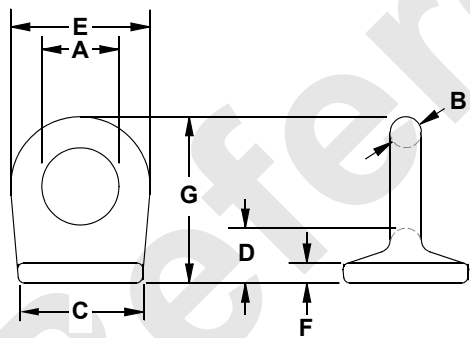

FIGURE 4-47
See Figure 4-47 for the following procedure.
1. Do not exceed approximate capacities listed in Figure 4-47.
2. Make sure rigging line and attaching hardware (clips and rope connectors) are rated for the approximate capacities shown in Figure 4-47.